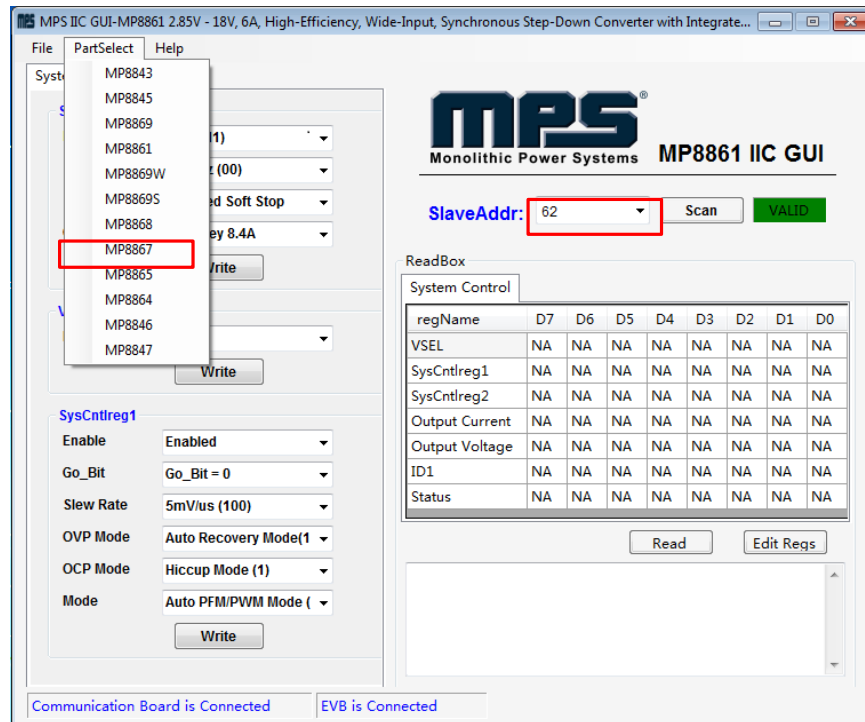
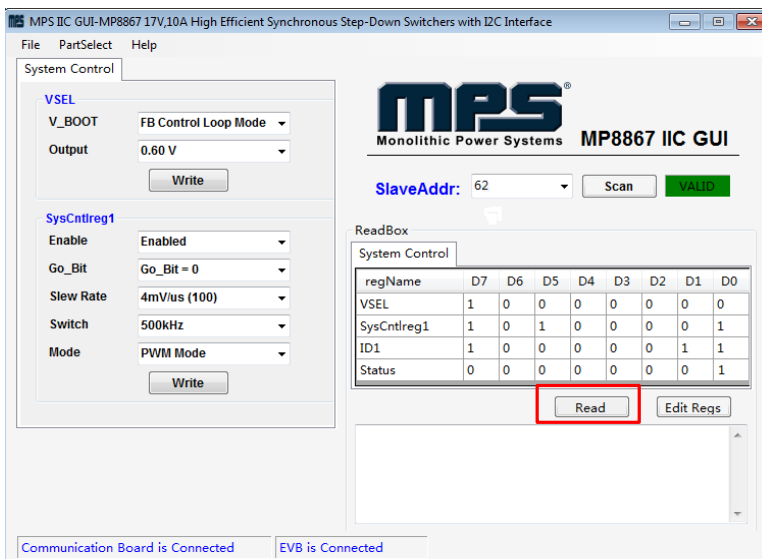

Figure 7: Appearance of Address Indicates Successful Connection
Figure 9: Values from I²C Shown in Table
- If the connection is successful, the address will be listed in the “Slave Address” (see Figure 7).
- Click the “Part Select” button to select the MP8867 (see Figure 7). The default GUI window is for the MP8861. The Register Control menu will appear on the left side. I²C register values will be read and displayed on the right side after clicking the “Read” button (see Figure 9).